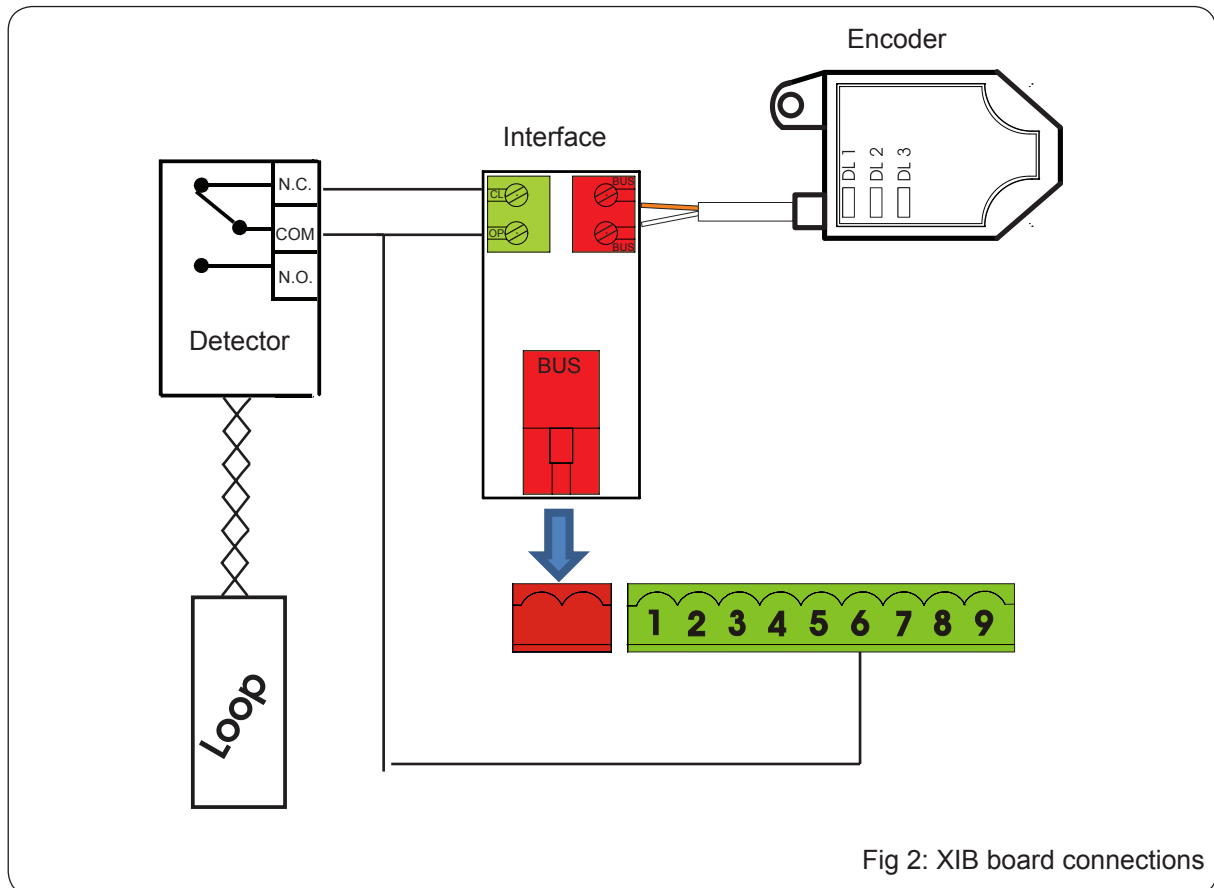

Fig 2: XIB board connections
3. Wire the shadow loop detector NC output to the CL input on the XIB board. See Fig. 2.